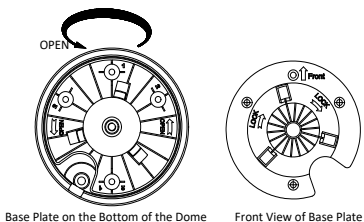
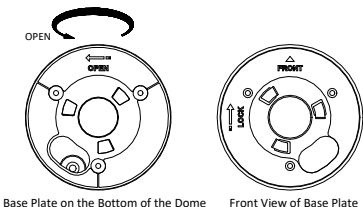

Figure 2-9 Base Plate for DE2xxx Series PTZ Camera
Figure 2-10 Base Plate for DE2xxxI Series (IR) PTZ Camera
1. Rotate the base plate counterclockwise to separate it from the PTZ camera, as shown in Figure 2-9 and Figure 2-10.